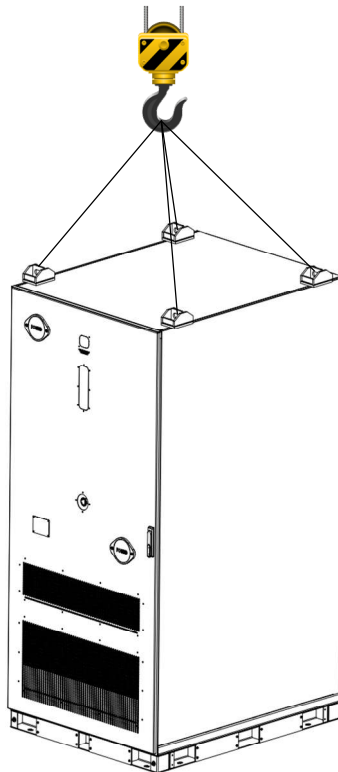

Fig. 3-1 Lifting Schematic
- The hoisting process must be carried out strictly in accordance with the hoisting diagram. For specific details, please refer to the attached Fig. 3-1 below.